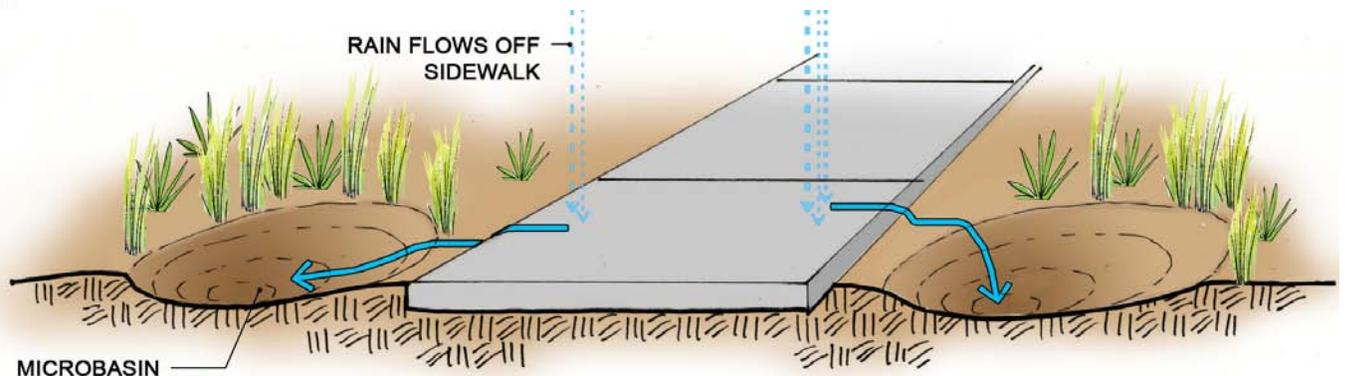

Figure 26. Microbasins along Sidewalk
- **On-contour Series** - Microbasins can be constructed in series along one or both sides of a ridge or elevated area to capture and infiltrate runoff. The basins should be placed to follow the contour line around the ridge, with their upslope ends at the same elevation. The same principle can be applied to collect runoff from elevated surfaces such as sidewalks (Figure 26).